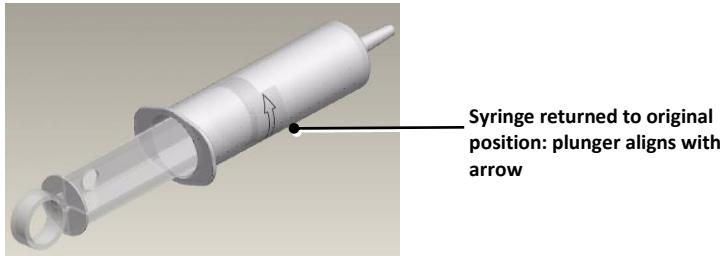

Figure 4: Syringe returned to original position
5. When the procedure is finished, deflate the balloon fully, as indicated when the plunger aligns with the arrow on the syringe (See Fig. 4) and carefully remove the catheter from the patient.